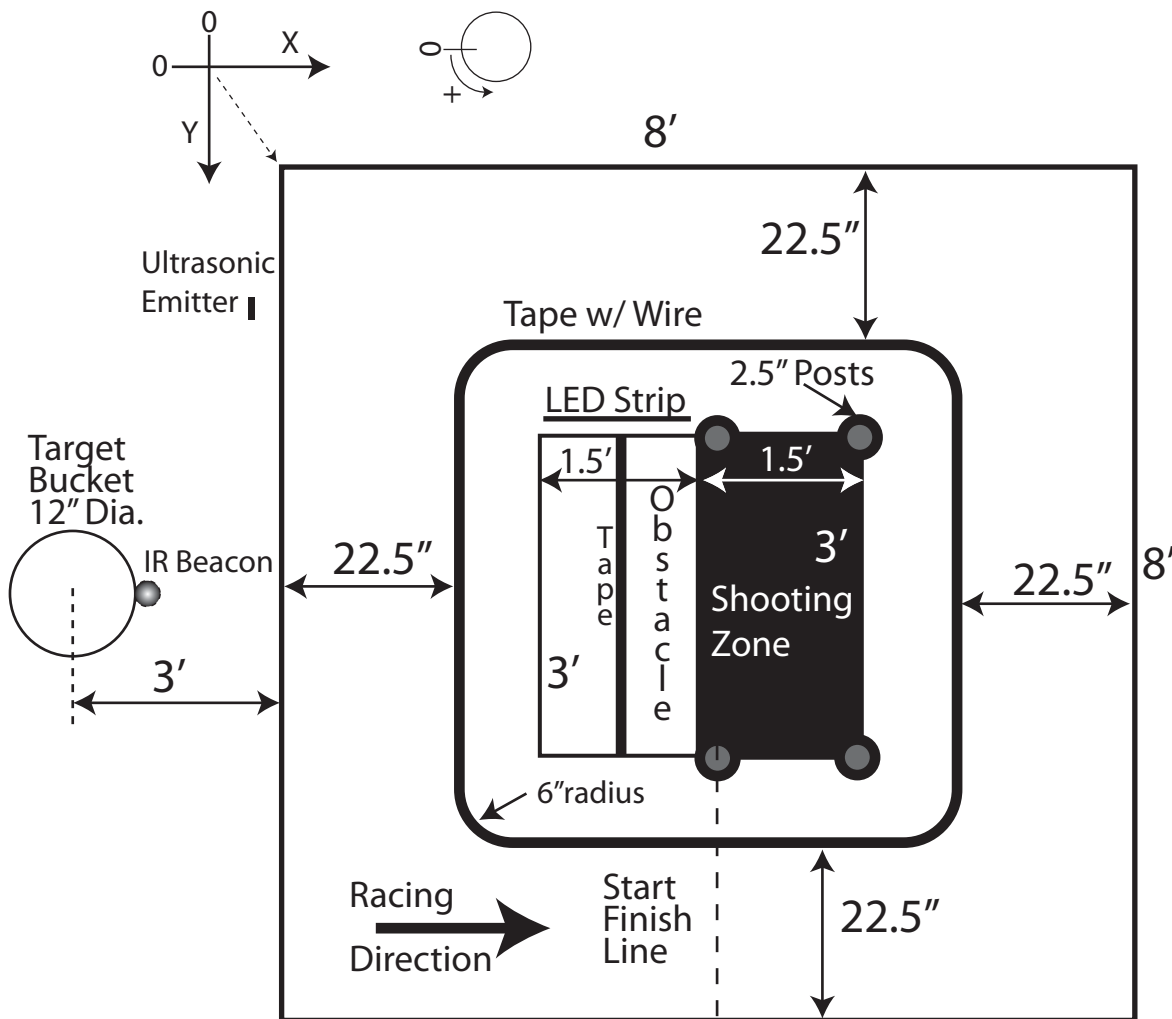

Fig. 1 The Race Course
- There will be 1" black tape loop, as shown in Fig. 1. Beneath the black tape will be a wire carrying a 100mA current modulated by a sine wave at 20kHz.